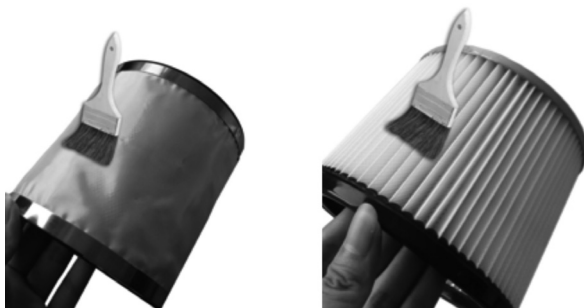

Fig. A4
7. Cleaning the wire mesh cover and HEPA filter (Fig. A4)